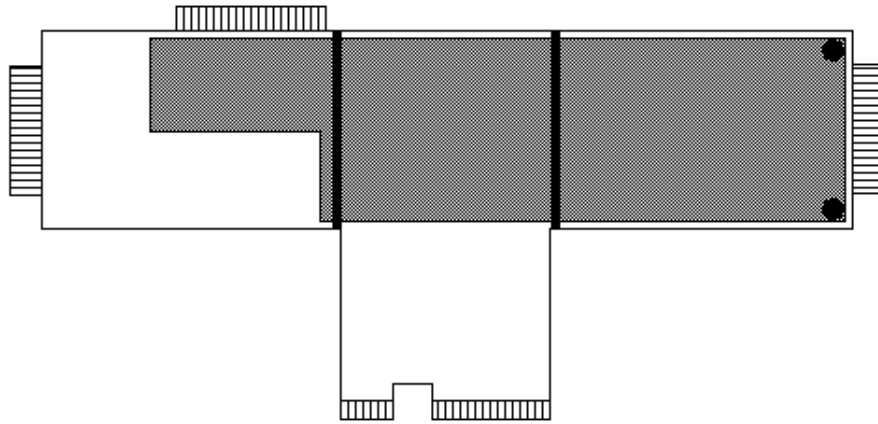

Figure 11
11) That's it! Plug your Black Box back into your computer and test. If you can enter the Black Box configuration menu, you've done a good job. Finally, secure the two tie wrap pairs around your Black Box, as indicated in Figure 11. These tie wraps will keep your *Floppy Board* from coming loose during operation (due to thermal expansion).